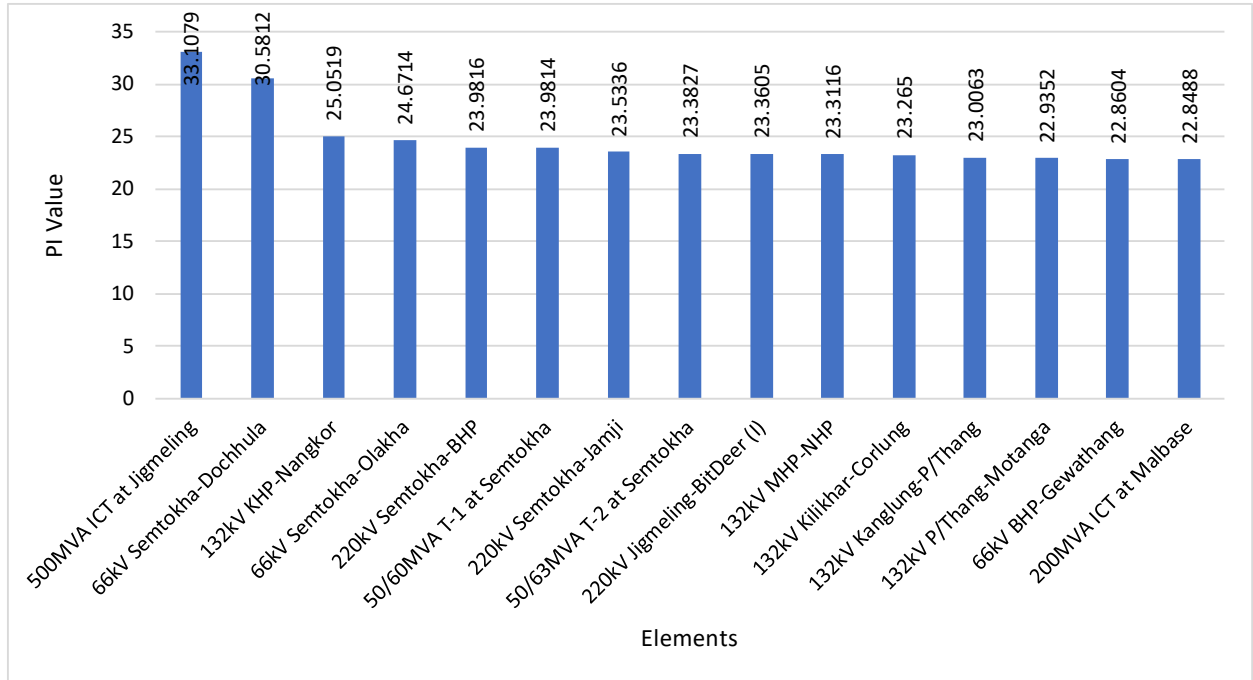

Figure 1: Contingency Ranking for July to September 2026
The contingency ranking for peak generation scenario for 2026 (July to September) is illustrated in Figure 1. The elements with the highest performance index (PI) value are the most critical elements in the system which will have adverse impact to the system such as overloading of other transmission elements, that will result blackout. The top 15 critical elements are identified through contingency ranking.